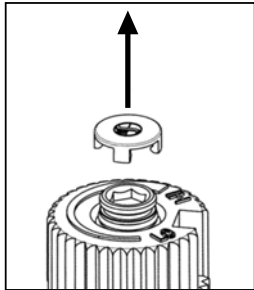

Figure 13: Removing valve cap.
- a) Remove the black protection cap from the HI/LO knob by hand shown in Figure 13.